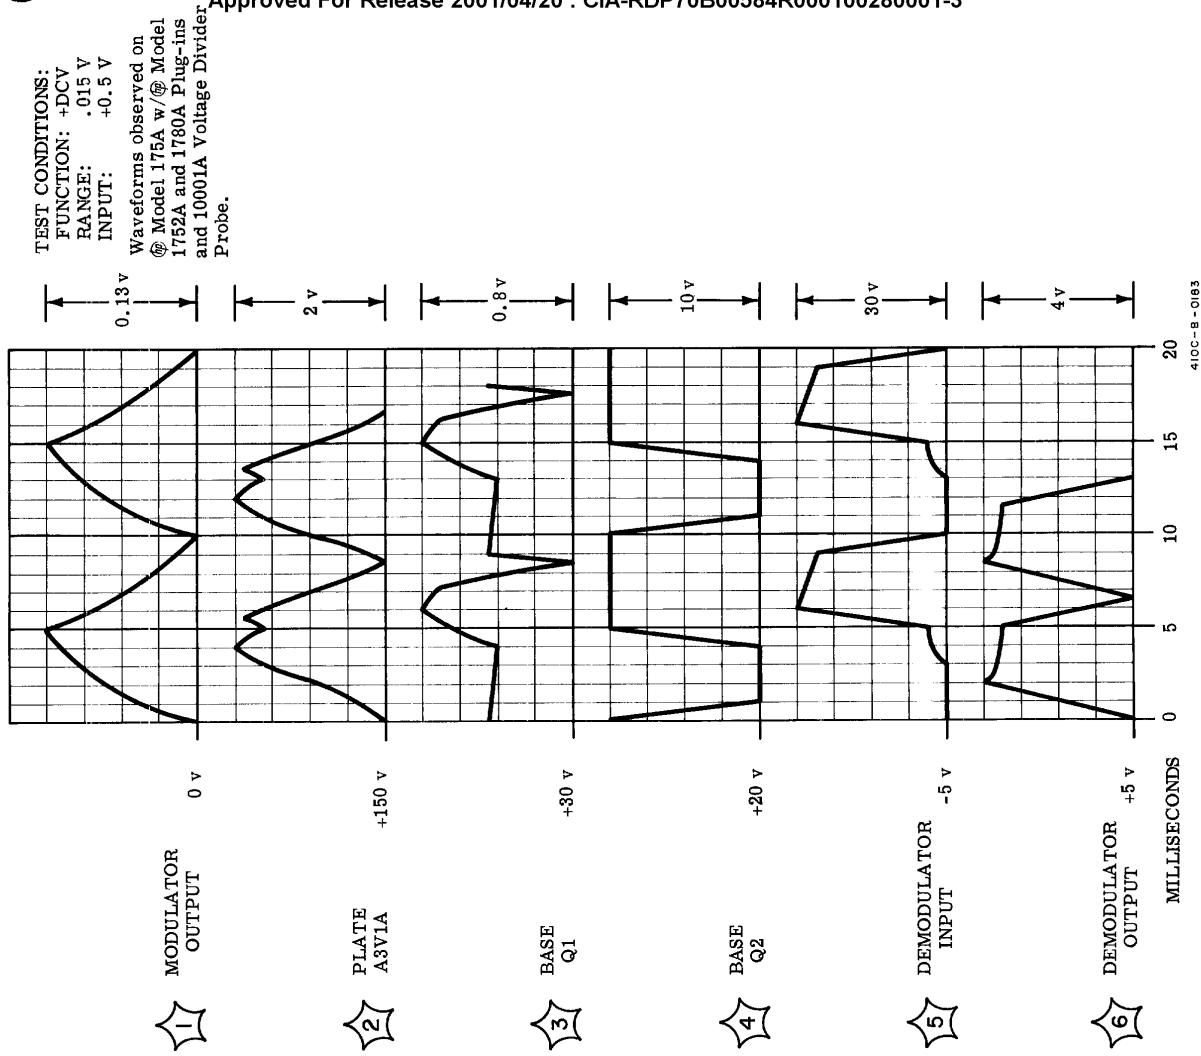
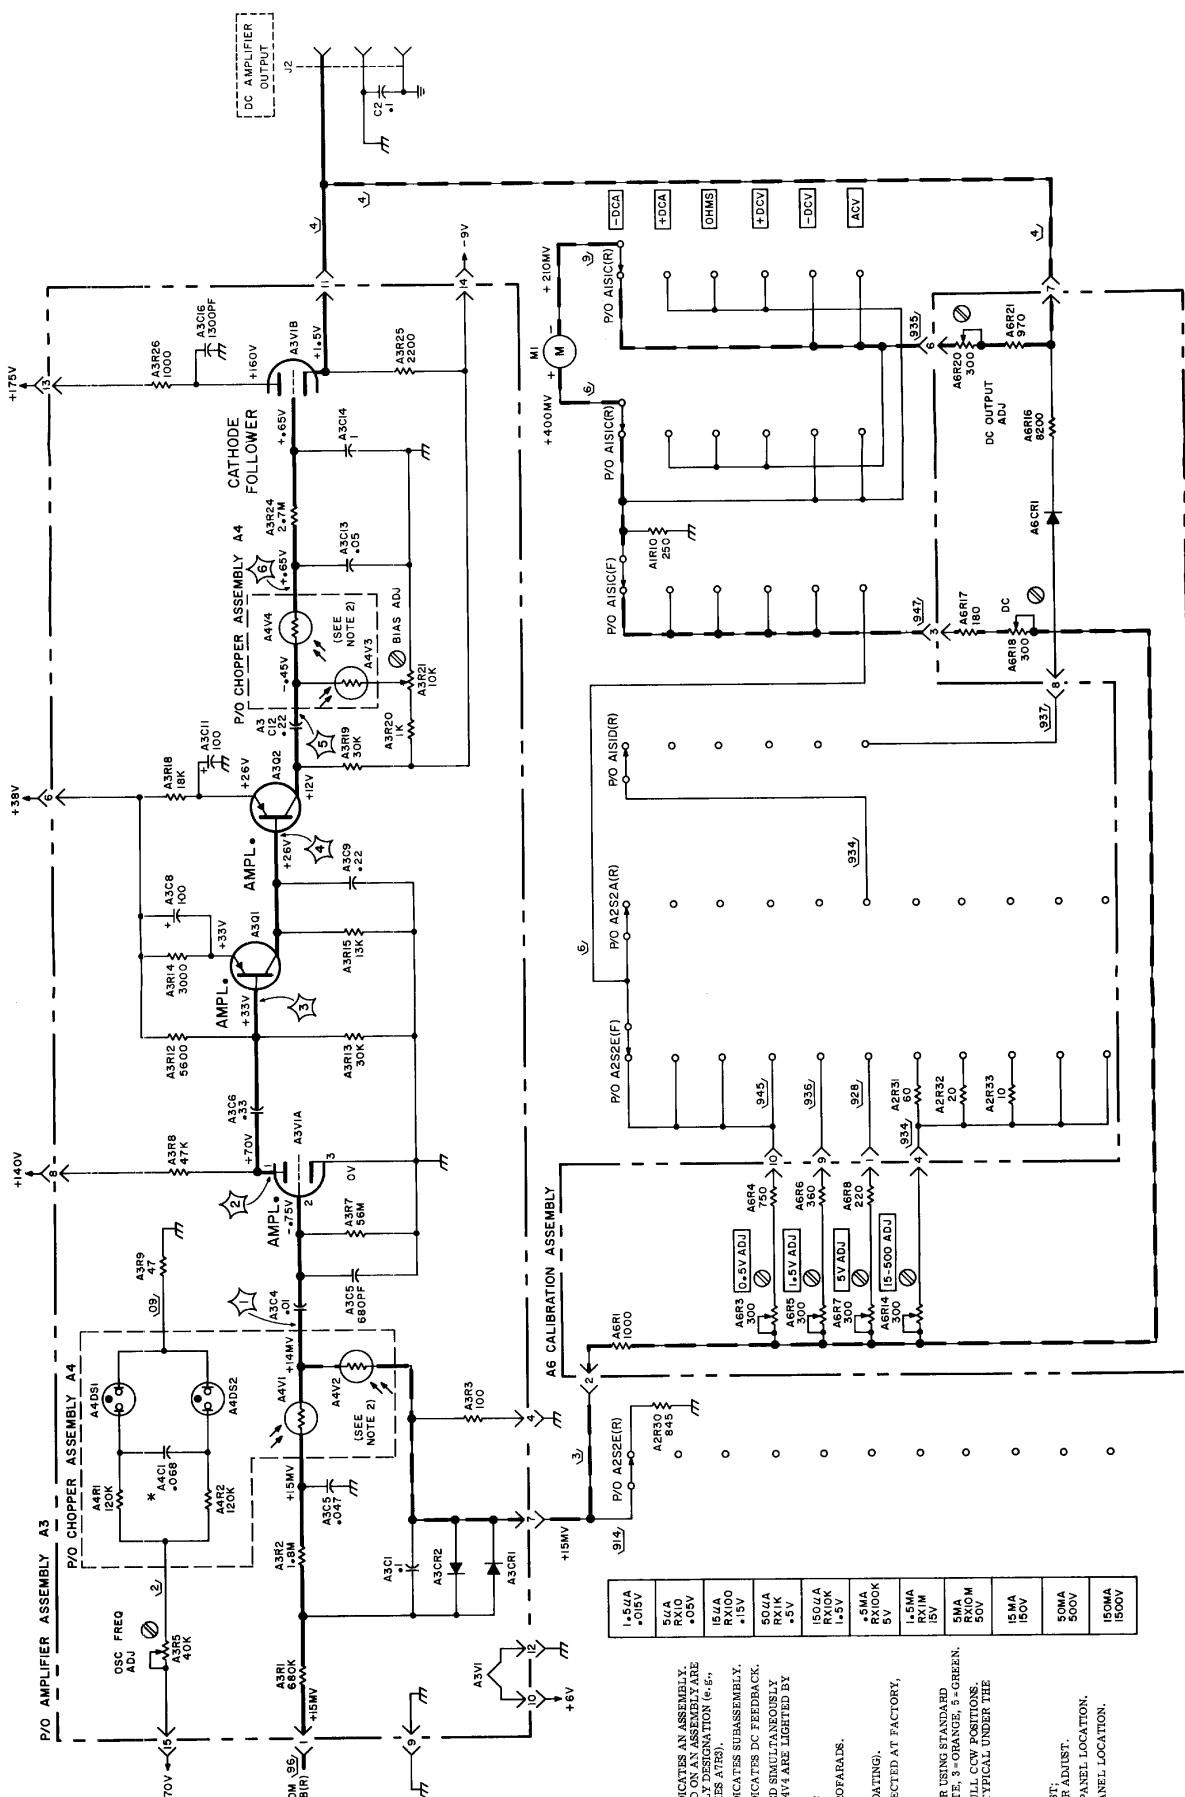

Figure 5-9. Typical Amplifier Waveforms
Figure 5-10. Amplifier Schematic
5-44. Refer to Figure 5-9 for typical waveforms encountered in the Model 410C. Waveforms represent signals which occur when instrument is operating during overdriven conditions (.5 vdc input to .015 v RANGE).
<p>① Check power supply voltage values using the procedure outlined in Paragraph 5-29. If voltages are correct, proceed to ③. If voltages are incorrect, proceed to ②.</p> <p>② If malfunction appears in the power supply, and adjustment of the chopper frequency to 100 cps does not reduce the error, refer to Figure 5-7 for further investigation. Check voltage and resistance values listed. When deviation is noted, trace circuit investigating for faulty component.</p> <p>③ Measure the dc voltage at the DC AMPLIFIER OUTPUT on Model 410C rear panel. Under overdriven conditions specified, output should be approximately +4.0 v. If this measurement is correct, proceed to ④; if not, proceed to ⑤.</p> <p>④ Trace circuit from Pin 11, A3 to Pin 2, A6. Use ohmmeter to check values of A6R21, A6R20, A6R17 and A6R1. Refer to Figure 5-10 for pertinent component and dc voltage values.</p>	<p>⑤ Measure the dc voltage at Pin 1, A3. This voltage is typically 13-15 mv. If this voltage is correct, proceed to ⑥; if not, proceed to ⑦.</p> <p>⑥ Investigate switch circuit. Refer to asterisks in Table 5-9 for hints on how to troubleshoot switch circuit.</p> <p>⑦ Observe input voltage to demodulator using an oscilloscope. Refer to Figure 5-9 for normal waveform under overdriven conditions specified. If waveform is normal, proceed to ⑧; if not, proceed to ⑨.</p> <p>⑧ Investigate the demodulator and cathode follower A1V3B. Refer to Figure 5-10 for typical voltage and parameter values. Refer to Table 5-9 for method to check for open demodulator.</p> <p>⑨ Investigate the modulator and amplifier to include A1V1A, Q1 and Q2. Refer to Figure 5-10 for typical voltage and parameter values. Refer to Table 5-9 for method to check for open modulator.</p>